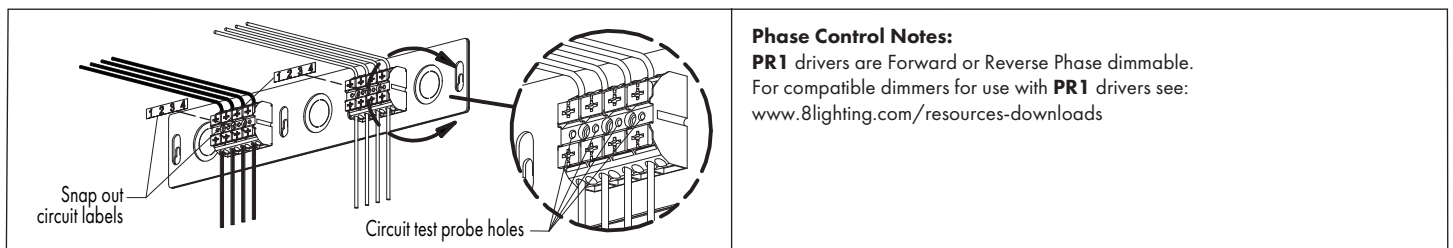

FIG 24.4 Accessing Circuit Probe Holes
STEP 3 Check circuit continuity using holes in terminal blocks - **FIG 24.4**.
- STEP 3** Check circuit continuity using holes in terminal blocks - **FIG 24.4**.